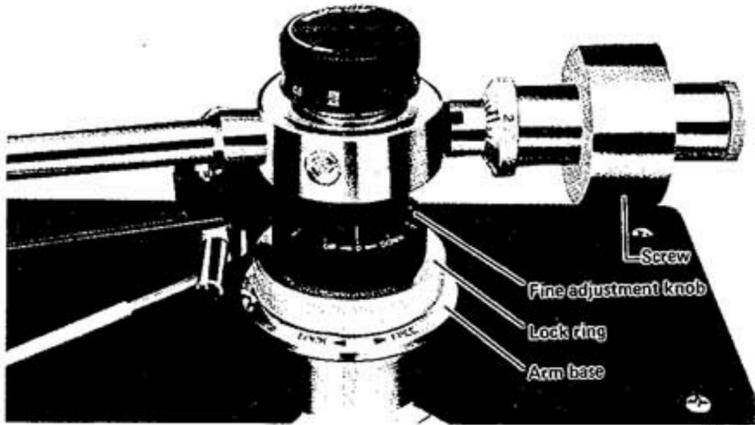

Fig. 5
1) Tonearm height adjustment (Fig. 5)